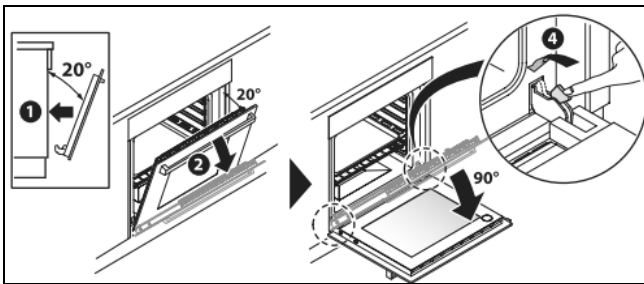

Fig. 10
- Once cleaned, re-insert the oven glass door in the reverse order (fig. 10).